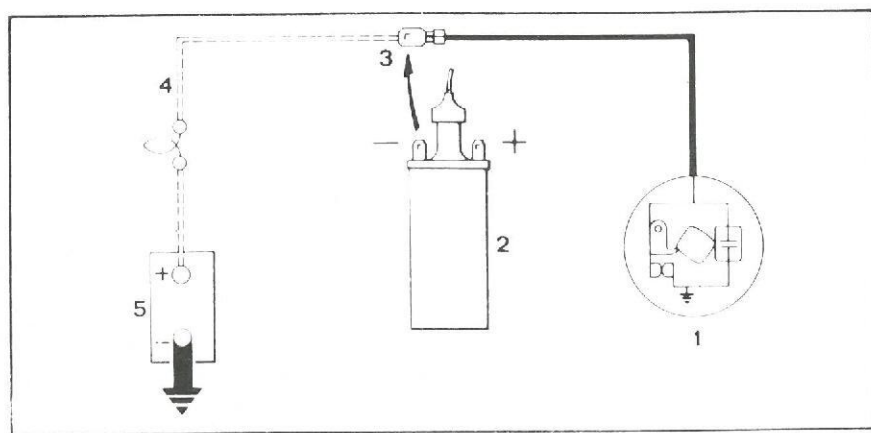

Fig. 9
1. Adjust the contact breaker gap as described previously, disconnect the distributor L.T. wire from the coil and reconnect it to a test lamp circuit as shown on Fig. 9.